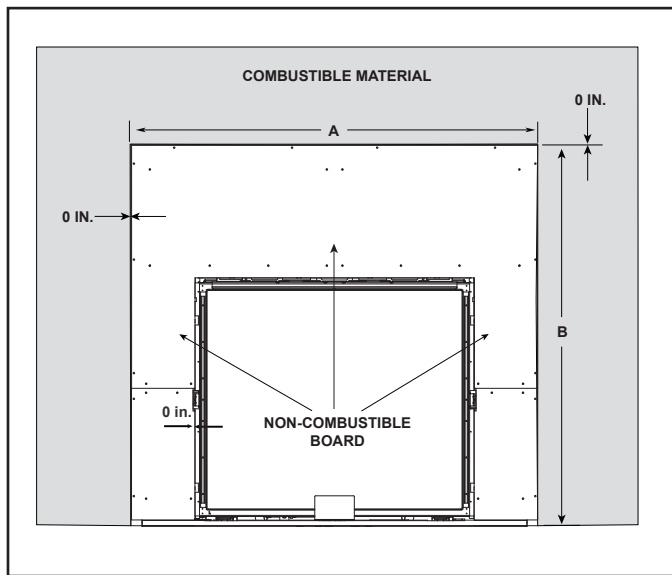

Figure 13.11 Non-combustible Facing Diagram
- Seal joints between the finished wall and appliance top and sides using a 300°F minimum sealant. Refer to Figure 13.11.